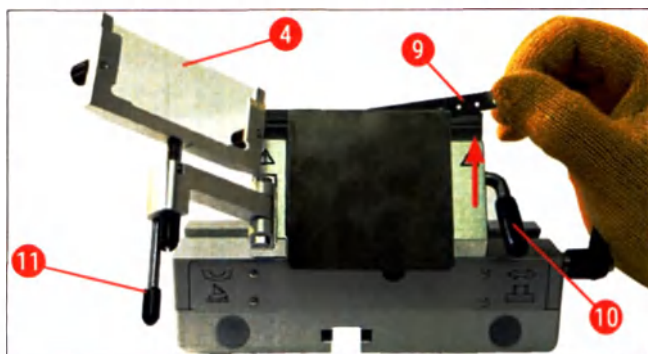

Fig. 34
2. Open the clamping lever (→ "Fig. 34-10") by turning it counterclockwise (→ "Fig. 34").